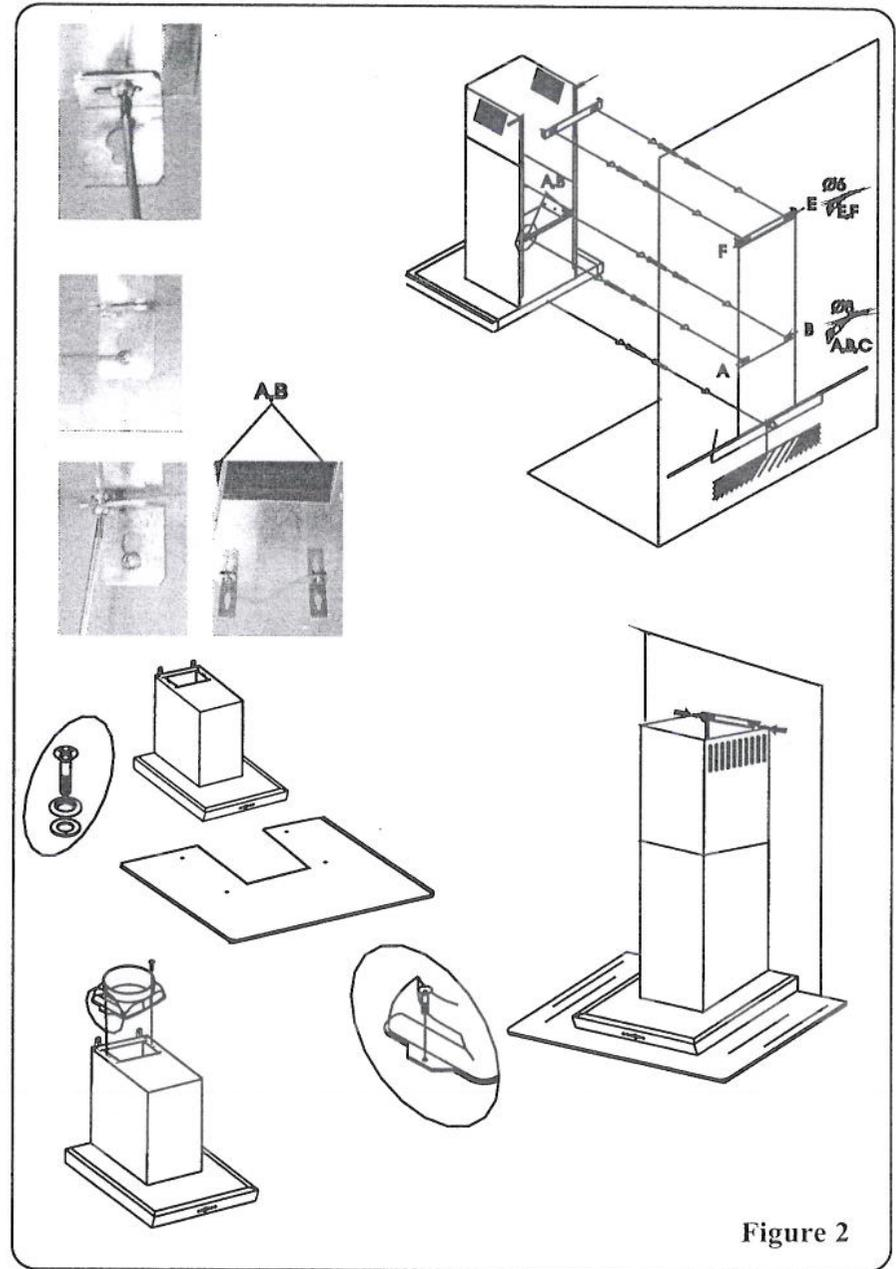

Figure 2
In order to hang the product onto hanging screws, there are 2 hanging parts in (L)shape. Screw those hanging parts on the product's motor cabin with M4x35 screw as shown in Figure 2.
- Open the holes on A,B,C points with Ø 8mm sized drill bit as shown in Figure 2. Open 2 holes on E, F points with Ø 6mm sized drill bit in order to screw of chimney assembly parts on place 15mm below of ceiling.
- Hang the product by key hole shaped- hanging parts through covering the body hanging screws A,B. Tighten up the screws by screwdriver. Fix the body onto wall by a screw through the (C) hole that placed underneath the body.